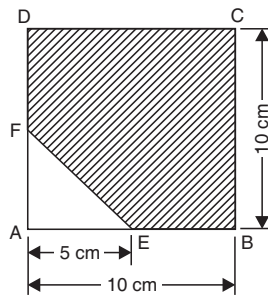

Fig. 4.48
11.  $ABCD$  is a square piece of paper of side 10 cm and  $E$  and  $F$  are mid-points of  $AB$  and  $AD$ . Find the c.g. of the portion left when  $\triangle AEF$  is cut off as shown in Fig. 4.48.